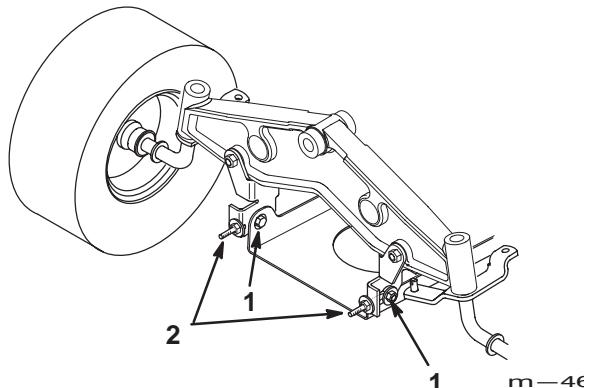

Figure 51
7. To adjust the front-to-rear blade slope, loosen the front pivot plate mounting bolts slightly (Fig. 51).
8. Rotate the locknuts on the eye bolts to change the adjustment (Fig. 51). To raise the front of the mower, tighten the eye bolt locknuts. To lower the front of the mower, loosen the eye bolt locknuts.
10. When the front-to-rear slope is correct, tighten the pivot plate mounting bolts (Fig. 51).